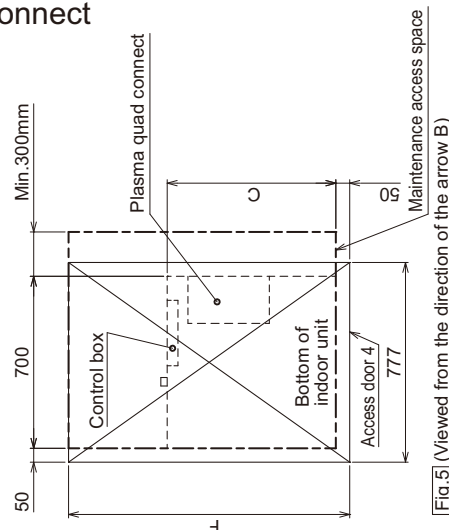

Fig. 5
- Create access door 4 below the control box and the unit as shown in Fig. 5.